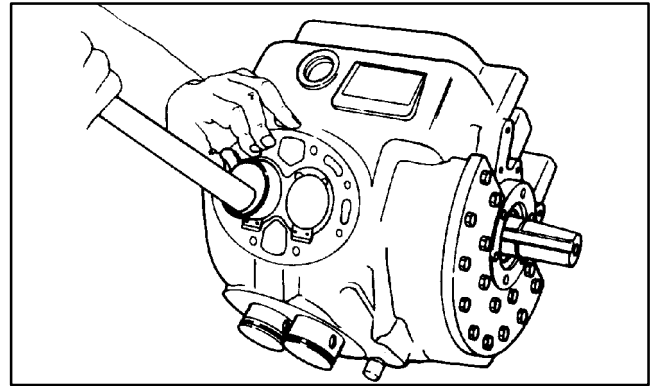

Figure 3-19. Installing Pistons
- a. Do not tap piston with hammer if rings are caught at entrance to the cylinder. Using a ring compressor, squeeze rings sufficiently to allow piston to be pushed down into the cylinder. Ensure that ring ends are staggered so that the gaps are not aligned, and lightly tap piston down into the cylinder. (See Figure 3-19) The ring compressor can be easily fabricated from a piece of sheet metal.